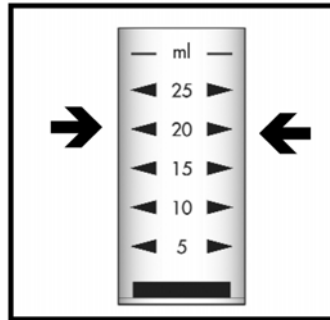

Figure 1
1. Fill the sample cup to the 20 mL mark with the sample (Figure 1).